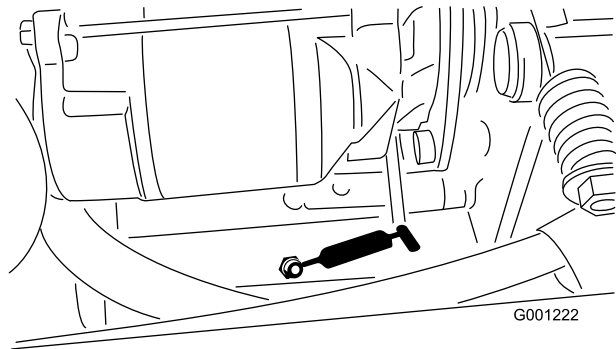

Figure 33
- Brake cables (drive wheel and brake pedal ends) (Figure 33)
- PTO tension pivot (Figure 33)
- Rear PTO bearing (Figure 33)